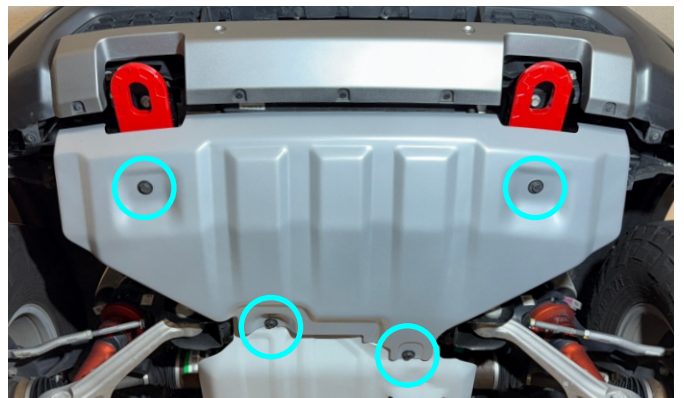

Fig. 9
9. Re-install the skid plate using factory hardware as shown in Fig. 9.